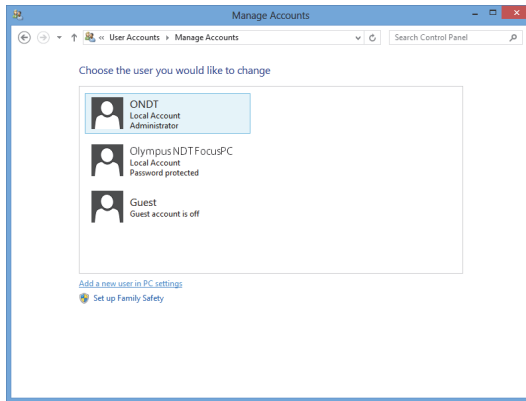

Figure 3-7 The Manage Accounts window
3. In the **Manage Accounts** window, click **Add a new user in PC settings** (see Figure 3-7 on page 56).